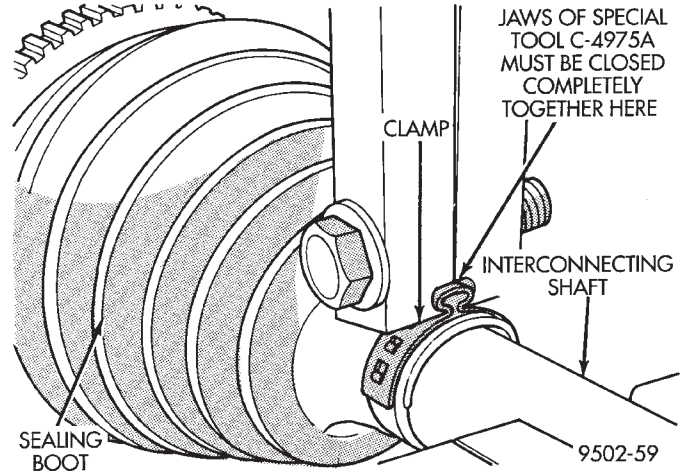
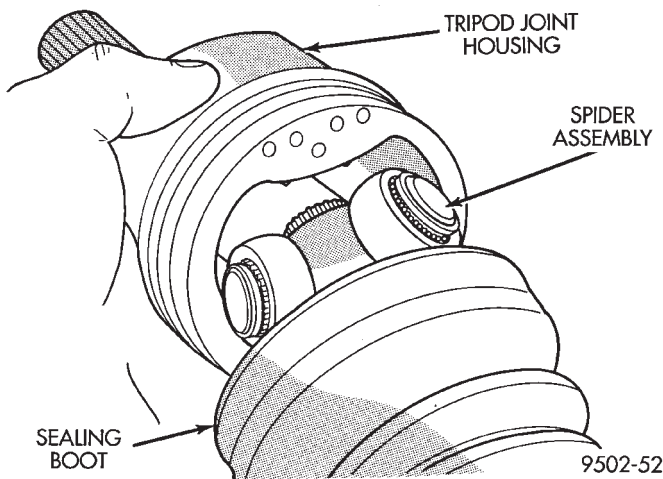
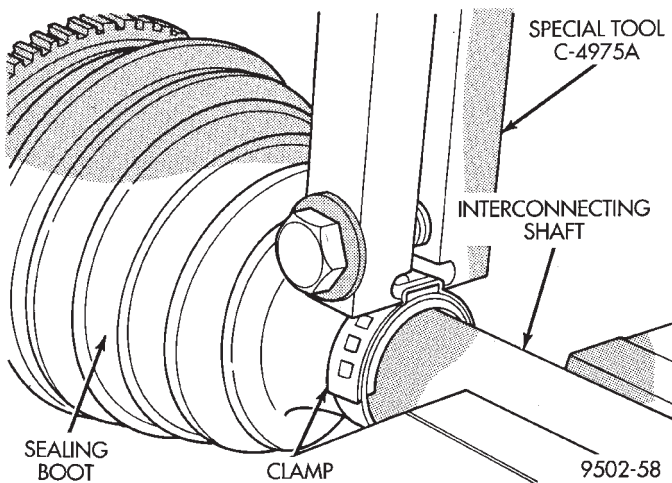

Fig. 36 Sealing Boot Retaining Clamp Installed
Fig. 34 Installing Tripod Housing on Spider Assembly
Fig. 35 Crimping Tool Installed on Sealing Boot Clamp
(4) Distribute 1/2 the amount of grease provided in the seal boot service package (**DO NOT USE ANY OTHER TYPE OF GREASE**) into tripod housing. Put the remaining amount into the sealing boot.
(5) Align tripod housing with spider assembly and then slide tripod housing over spider assembly and interconnecting shaft (Fig. 34).
(6) Install inner tripod joint seal boot to interconnecting shaft clamp evenly on sealing boot.
(7) Clamp sealing boot onto interconnecting shaft using crimper, Special Tool C-4975-A and the following procedure. Place crimping tool C-4975-A over bridge of clamp (Fig. 35). Tighten nut on crimping tool C-4975-A until jaws on tool are closed completely together, face to face (Fig. 36).